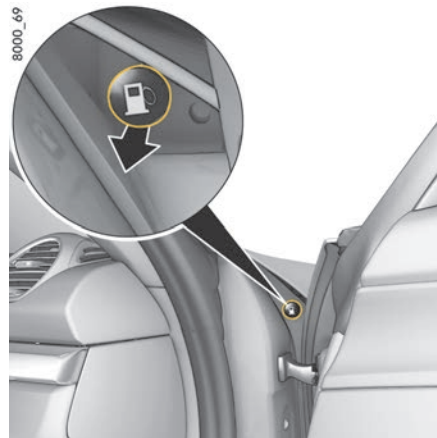

Fig. 181: Emergency operation of the filler flap
2. Pull the button in the right-hand door aperture (Fig. 181).